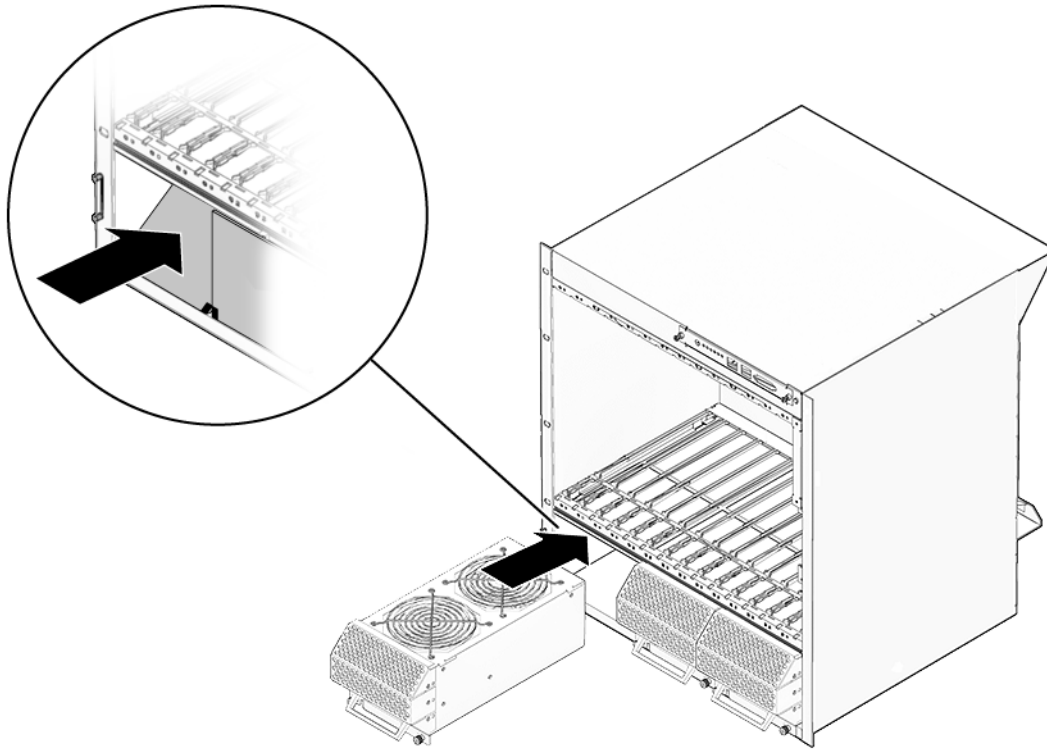

FIGURE 5-7 Lowering the Fan Tray Baffle
- 2. Press down on the top of the fan tray baffle to lower it as you insert the fan tray into the shelf (FIGURE 5-7).**